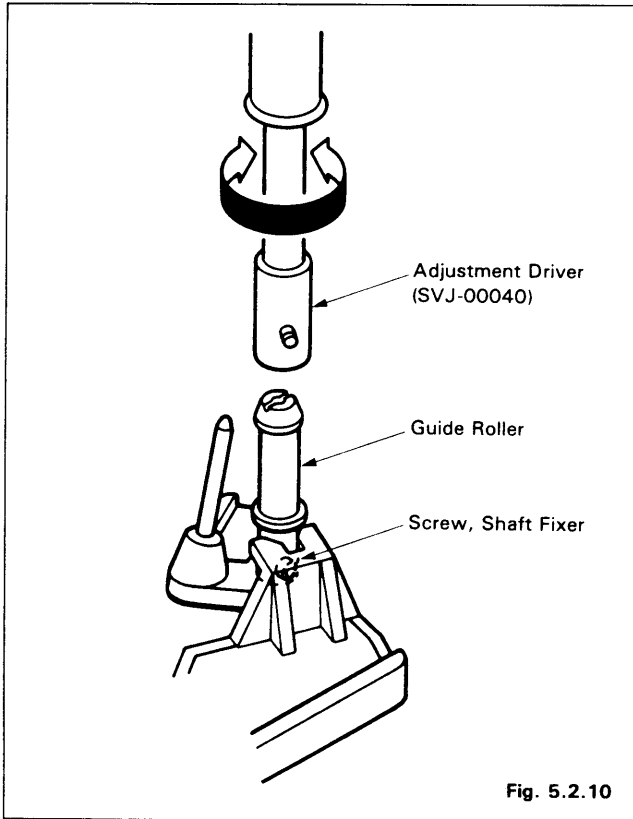

Fig. 5.2.10
- Next, adjust the guide roller height. Insert the adjustment driver (SVJ-00040) into the guide roller top. (Refer to Fig. 5.2.10)